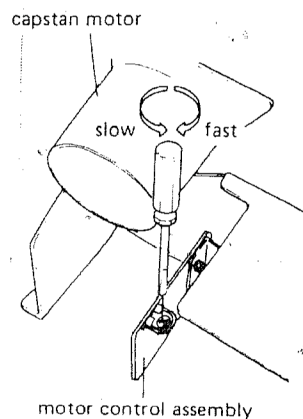

Fig. 22
3. Playback the 3kHz section of the STD-301 test tape used for checking tape speed and wow and flutter. The frequency at the beginning of the tape should be within 2995 to 3010Hz. If it is not, adjust by means of the semi-fixed volume in the motor control assembly (as shown in Fig. 22).